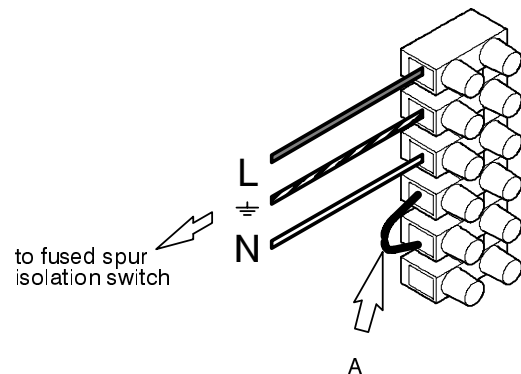

fig. 3.10
- 3 Connect the electrical supply flexible cord coming from the fused spur isolation switch to the terminal block for the boiler (fig. 3.10) keeping the same connections for the live (brown wire) and the neutral (blue wire). External 3 A fuse or fused plug with same current rating is recommended.
When connecting any type of room thermostat, the jumper A in fig. 3.10 must be removed.